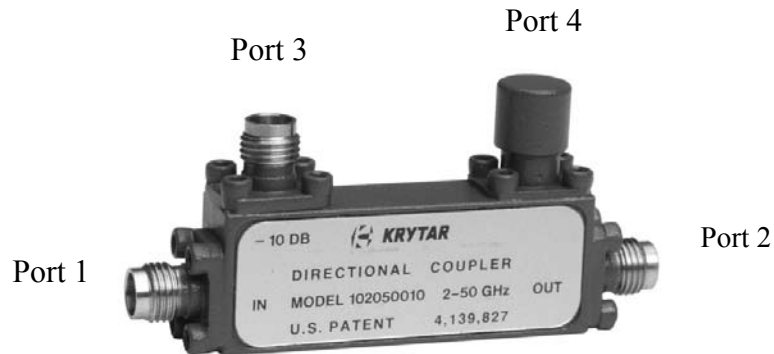

Figure 1
1. Directional Coupler. Components that allow two microwave circuits to be combined into one integrated system in one direction with the two completely isolated from each other in the opposite direction. See Figure 1 above.